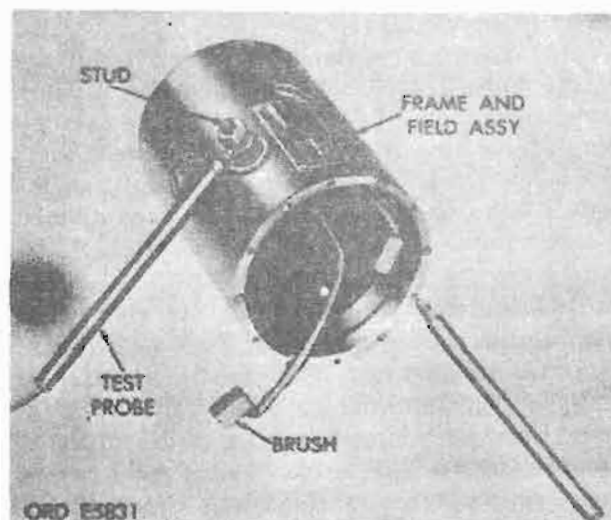

Figure 7-12. Testing frame and field assembly for ground.
(1) Inspect for worn, cracked, or frayed insulation, corroded or burned terminal, and for loose or corroded connections. All connections must be clinched and soldered to assure good electrical contact. Repair defective parts or replace with new.
(2) Inspect field brushes and leads for oil-soaked condition. Inspect leads for breaks or fraying and for poor condition of insulation. Measure length of brushes. If length is less than $5/16$ inch or if any of above conditions are found, install new brushes and leads. Use rosin-core solder.
(3) Test frame and field assembly for grounds as shown in figure 7-12. Make sure brushes are insulated from frame and field assembly, then touch one probe of continuity tester to terminal stud and other probe to ground on frame. If test shows a ground, discard frame and field assembly.